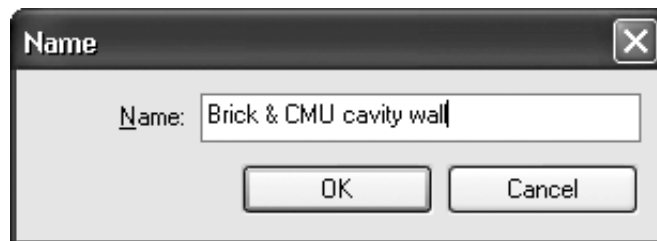

Figure 3-2.6 New wall type name
14. Enter **Brick & CMU cavity wall** for the new wall type name, and then click **OK** (Figure 3-2.6).